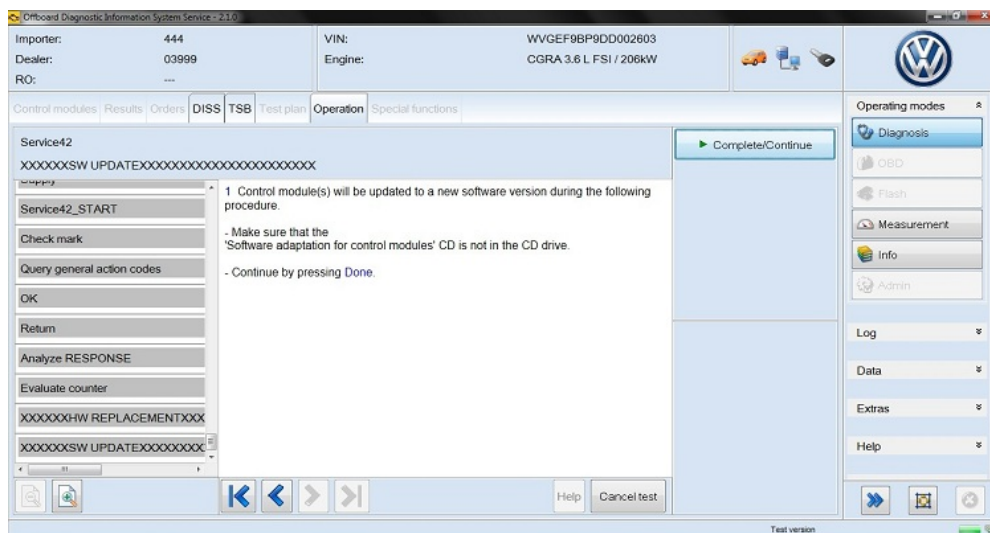

Figure 5
11. The procedure may include one, or any combination of the following comments for one or more control modules as specified in the Technical Bulletin/RVU (Figure 5):